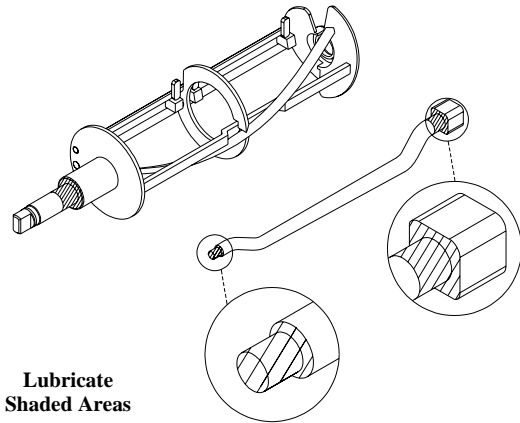
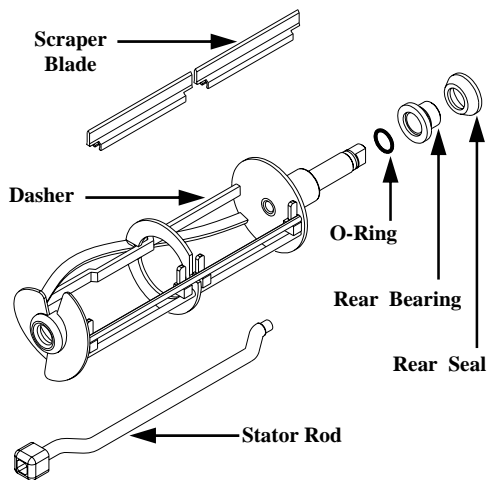

Fig. 10
Fig. 11
a. Apply a generous amount of lubricant to the shoulder of the dasher and the area of the shaft where the white plastic portion of the assembled rear seal contacts the shaft (Fig. 10). This is easily performed by running a 1/4 inch bead of lubricant around the shoulder of the dasher.
b. Lubricate the two areas of the stator rod (Fig. 10) and slide the stator rod into the dasher (Fig. 11). Ensure that the end of the stator rod is inserted into the hole at the rear of the dasher.
d. Install the assembled rear seal so that the rubber portion is facing the rear wall of the barrel and the white plastic bearing will rest against the dasher - Fig. 11.